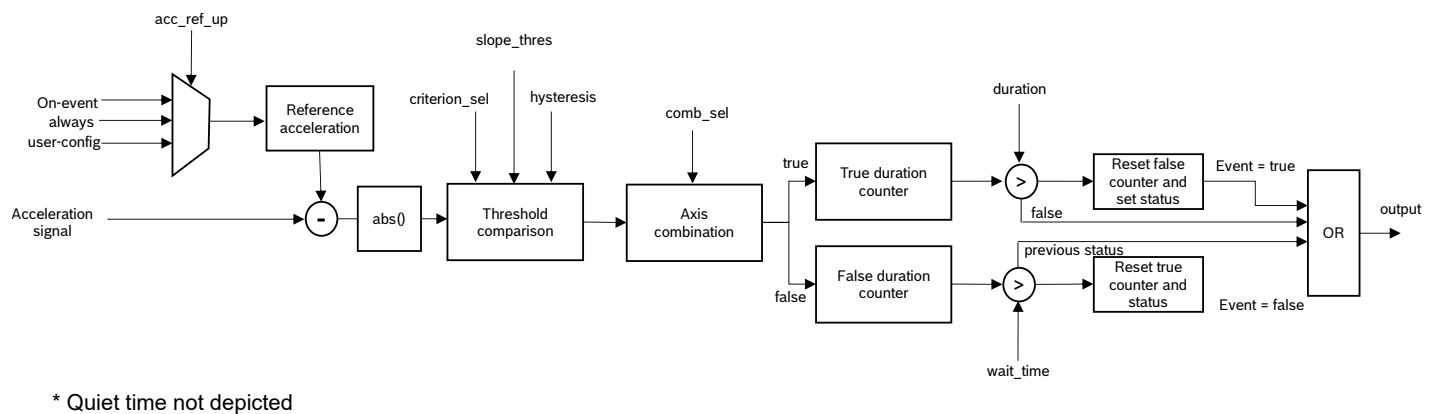

Figure 23: Functional behavior of generic interrupt
The functional behavior of the generic interrupt is presented in Figure 23. Generally, the change in the acceleration signal with respect to a defined reference value is monitored by the feature. Then, this change in the acceleration signal is compared against a configurable threshold value. Additionally, to avoid unwanted rapid interrupts, a hysteresis value can also be configured. Finally, to trigger the generic interrupt, the acceleration change must be either greater or lower than the configured threshold for a configured duration. The interrupt can be again cleared, when the condition remains false for a configured wait time.
9. `GENERIC_INTERRUPT1_4.quiet_time` configures the quiet time behavior of the generic interrupt, which is not depicted in figure 23. It defines the minimum quiet time between two consecutive interrupt detection. This means that, after an interrupt was triggered, no new interrupt will be triggered before the configured quiet time is expired.